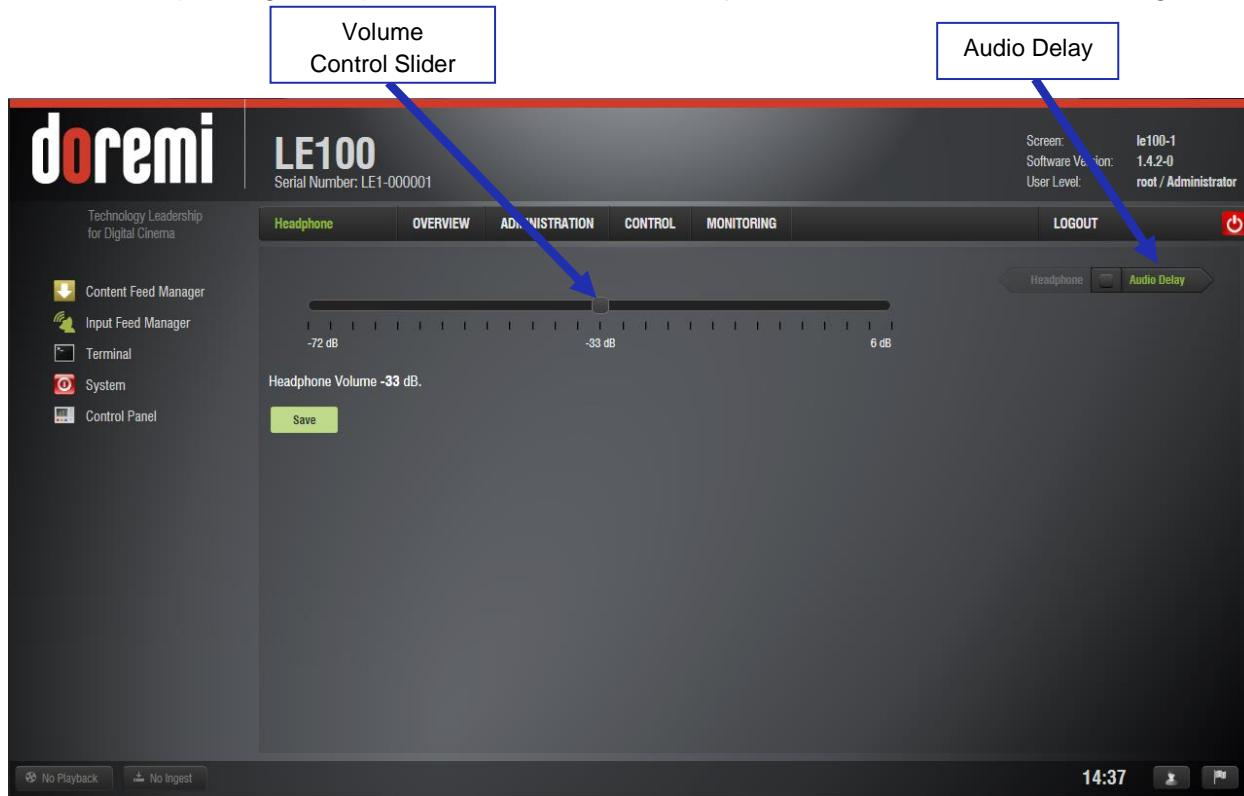

Figure 13: Headphone Volume
- Click and drag the volume control slider right or left to increase or decrease the volume level (see Figure 13). The Save button must be pressed to commit the level change.
- From the Administration tab, select Control Panel and click on the Audio Configuration link. This will take you to the Headphone Volume page. For the Audio Delay settings, select the Audio Delay link (see Figure 13).